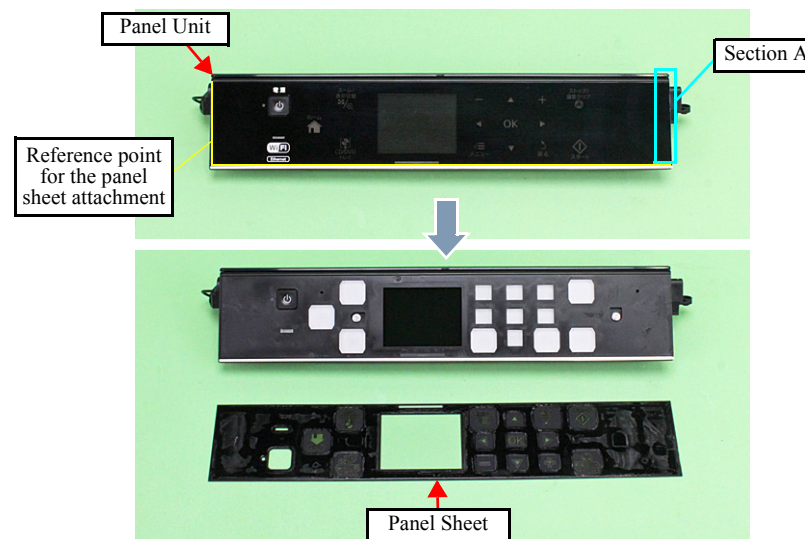

Figure 9-51. Removing the Panel Unit (4)
- Taking the bottom left corner of the Panel Sheet as the reference point, align the bottom edge with the bottom rib of the Panel Unit and put the left edge against the rib, then attach the Panel Sheet. (See Fig. 9-51 (p.312).)